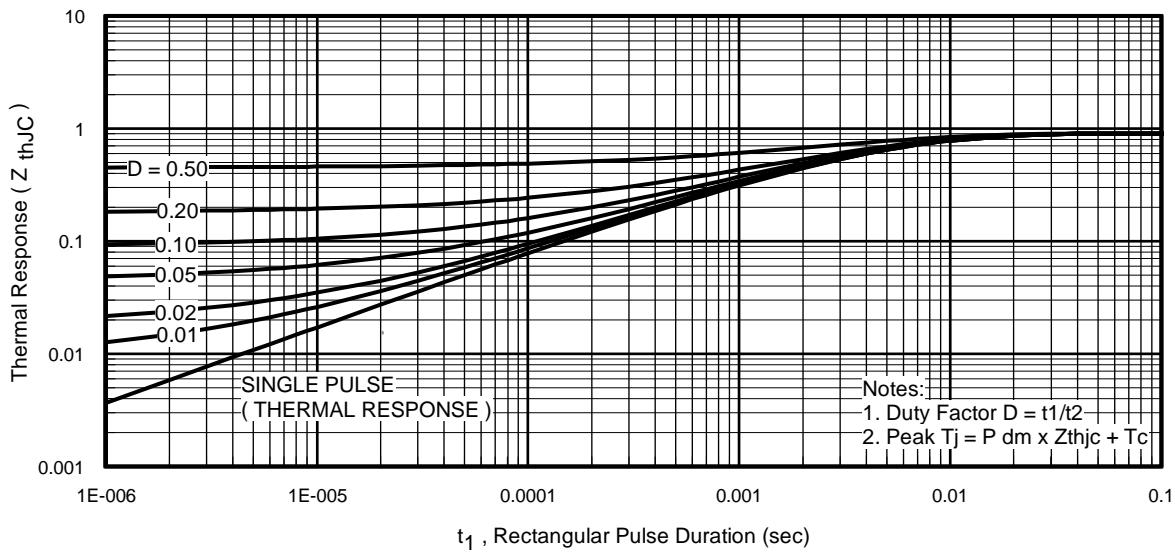
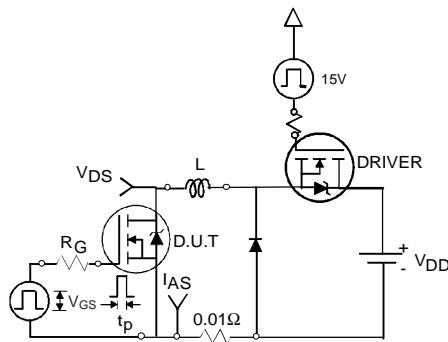

Fig 11. Maximum Effective Transient Thermal Impedance, Junction-to-Case
Fig 12a. Unclamped Inductive Test Circuit
- ① Repetitive rating; pulse width limited by max. junction temperature. (See fig. 11).
- ② Limited by $T_{J\text{max}}$, starting $T_J = 25^\circ\text{C}$, $L = 0.12\text{mH}$, $R_G = 25\Omega$, $I_{AS} = 53\text{A}$, $V_{GS} = 10\text{V}$. Part not recommended for use above this value.
- ③ $I_{SD} \leq 53\text{A}$, $di/dt \leq 420\text{A}/\mu\text{s}$, $V_{DD} \leq V_{(\text{BR})\text{DSS}}$, $T_J \leq 175^\circ\text{C}$.
- ④ Pulse width $\leq 1.0\text{ms}$; duty cycle $\leq 2\%$.
- ⑤ $C_{oss \text{ eff.}}$ is a fixed capacitance that gives the same charging time as C_{oss} while V_{DS} is rising from 0 to 80% V_{DSS} .
- ⑥ Limited by $T_{J\text{max}}$, see Fig.12a, 12b, 15, 16 for typical repetitive avalanche performance.
- ⑦ This value determined from sample failure population. 100% tested to this value in production.
- ⑧ This is applied to D²Pak, when mounted on 1" square PCB (FR-4 or G-10 Material). For recommended footprint and soldering techniques refer to application note #AN-994.
3. Equation below based on circuit and waveforms shown in Figures 12a, 12b.
$Z_{thJC}(D, t_{av})$ = Transient thermal resistance, see figure 11)